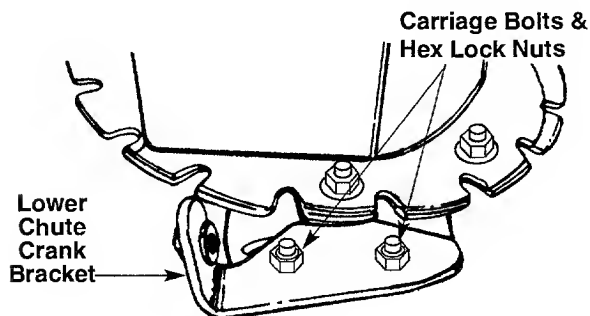

FIGURE 8
- You may have to loosen the carriage bolts and hex lock nuts which secure the lower chute crank bracket to the extension on the left side of the chute assembly. See figure 8.